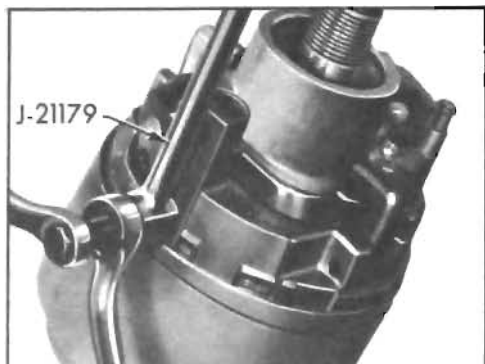

Figure 8-84—Removing Pivot Pin
10. Remove the two pivot pins with Remover J-21179. See Figure 8-84. Thread stud of J-21179 into pin. Hold stud and turn nut to remove pin.